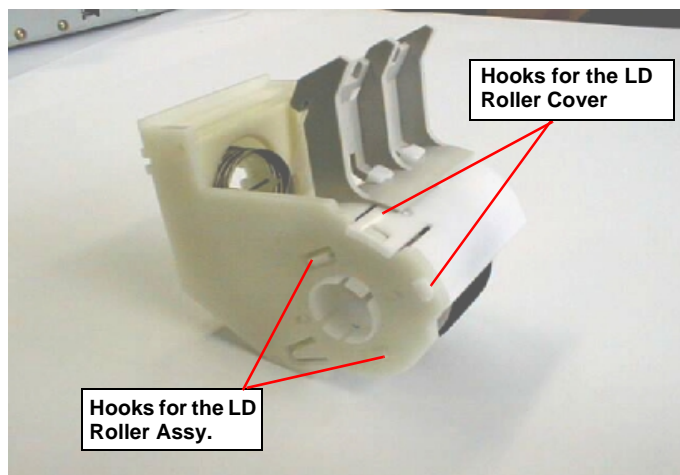

Figure 4-34. Releasing hooks for LD Roller
1. Release the two hooks fixing the LD Roller Cover to the Paper Feed Roller Assembly. Refer to Figure 4-34.
- 2) Release the two hooks fixing the LD Roller Assembly at around the shaft hole of the Paper Feed Roller Assembly. Refer to Figure 4-34.